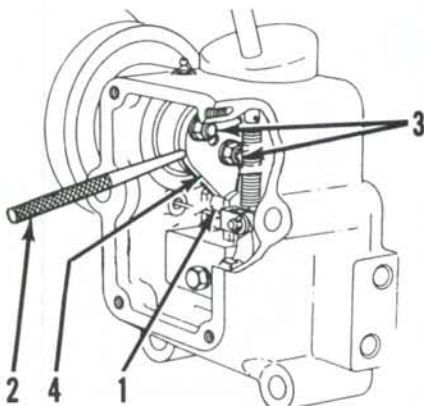
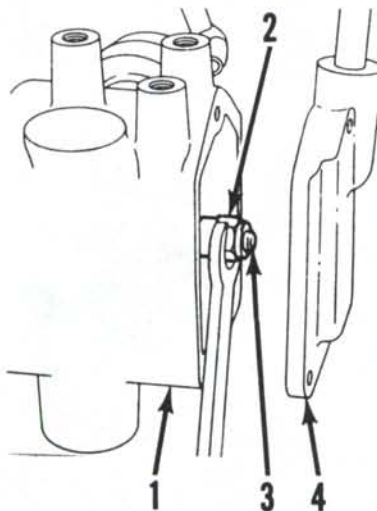
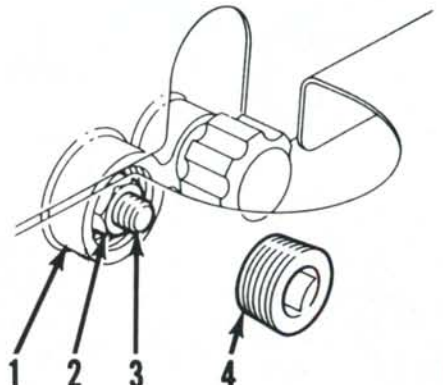

Fig. 243—View showing adjustment of rockshaft cam. Refer to paragraph 312.
Fig. 244—View showing location of locknut used to adjust connecting link on cab or platform equipped models.
Fig. 245—View showing location of locknut used to adjust connecting link on low profile models.
in SELECT position, then select POSITION CONTROL on selector dial. Move linkage control lever to RAISE position. Lift the lower links by hand to fully raised position, then engage lift latch if so equipped. If not equipped with lift latch, lower the linkage 40 mm (1½ inches), measured at outer end of lower link, and support in this position with a suitable stand. Remove cover from rear of right-hand rockshaft bracket. Loosen the two nuts (3—Fig. 243), insert a punch (2) into hole in rockshaft cam (4) and turn cam until roller (1) is seated in notch. Tighten the two nuts to secure adjustment.
313. CONNECTING LINK ADJUSTMENT. Move selector dial to POSITION control setting. Remove cover (4—Fig. 244) from control housing on tractors equipped with cab or platform. (Control housing (1) is located on right-hand side of rear axle housing.) On models without cab or platform, remove plug (4—Fig. 245) from control housing cover. On all models, turn nut (2—Fig. 244 or 245) counterclockwise until it is even with end of connecting link (3). Remove cover from rear of right-hand rockshaft bracket. Move linkage control lever rearward to SELECT position and hold in this position. Raise lift arms by hand until roller (1—Fig. 243) is seated in notch in cam (4). Support lift arms in this position with a suitable stand. Place a 0.05 mm (0.002 inch) feeler gage between rocker lever (2—Fig. 246) and push rod (1). Then turn connecting link locknut (2—Fig. 244 or 245) clockwise until feeler gage is snug but can be moved between rocker lever and push rod.